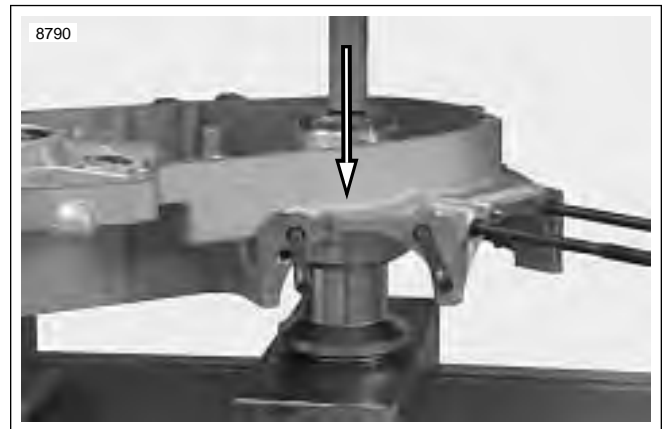

Figure 3-143. Direction of Bearing Removal From Left Crankcase
- See Figure 3-143. Using CRANKCASE BEARING REMOVER/INSTALLER with ADAPTER (Part No. B-45655, HD-42720-2 and HD-46663) press sprocket shaft bearing out of the left crankcase half.